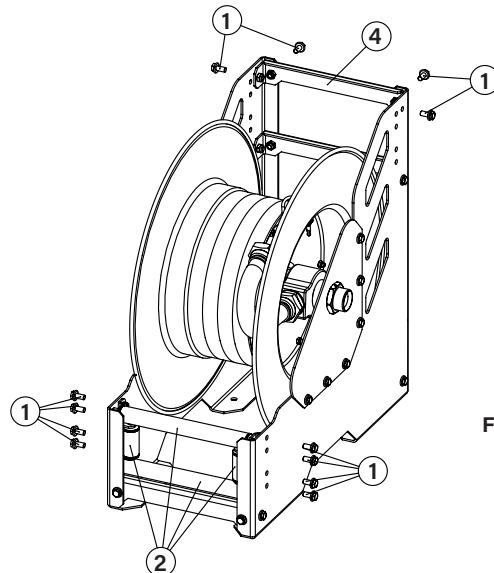

Fig. 1
3. Unscrew the bolts (1), take out the hose outlet rollers (2) , and disassemble the crosspiece (4) (Fig. 1).